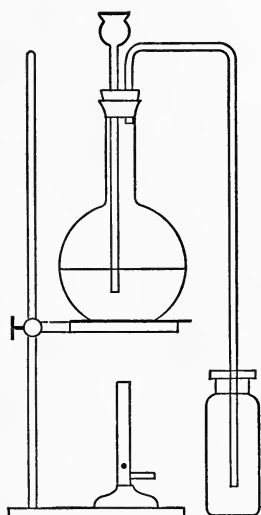

FIG. 10.
8. Preparation of chlorine.—Arrange a flask with a delivery tube, preferably of glass, and a funnel tube as indicated in Fig. 10. Into the flask put